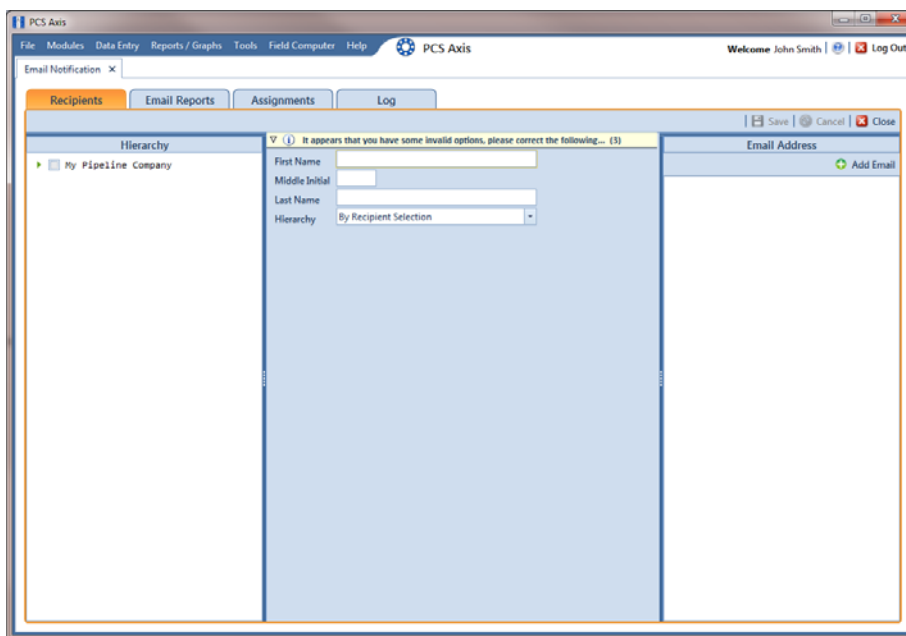

Figure 12-4. Recipients / Add External User
- 2 Click  **Add External User**. Type the user's **First Name**, **Middle Initial** (optional), and **Last Name** in the respective fields located in the center panel of the window (Figure 12-4).